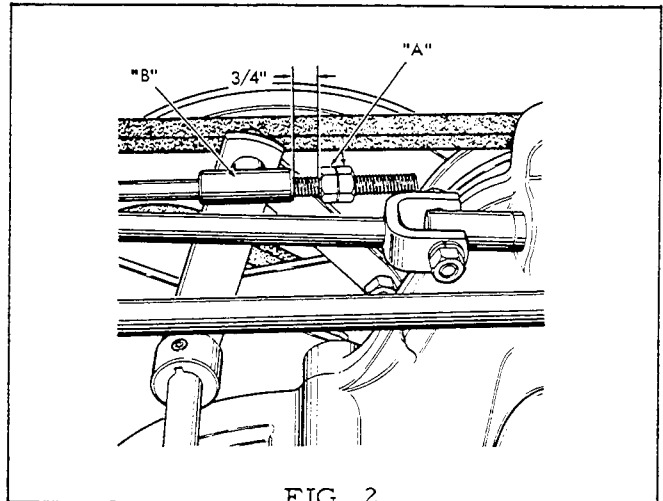

FIG. 2
1. With clutch and brake pedal in normal position (i. e., clutch engaged and brake released), adjust hex nuts (A) to give 3/4" clearance between rod guide assembly (B) and nuts. (See Fig. 2).
Pull the brake band up by hand so that it is tight around the brake drum. Adjust the hex screw (C) Fig. 2 to give a clearance of about $\frac{3}{4}$ " between the brake band and the screw head. Then check to see that the idler pulley releases the belt properly before the brake is applied. If the brake does not hold properly when the pedal is pushed all the way forward, reduce slightly the spacing between the head of the hex bolt and the brake band. Then recheck the clutch rod adjustment for proper idler release.